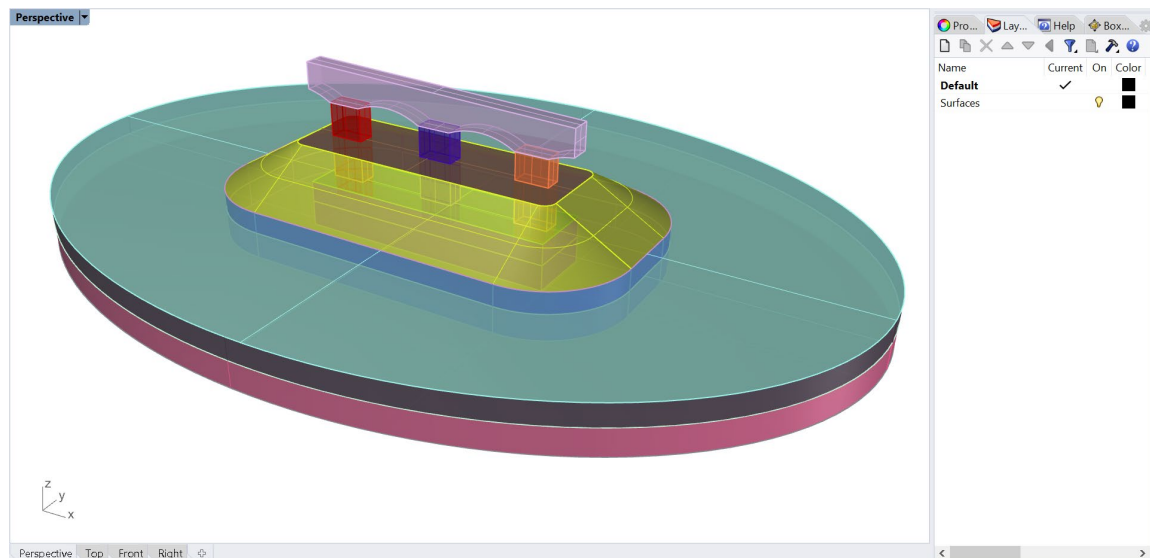
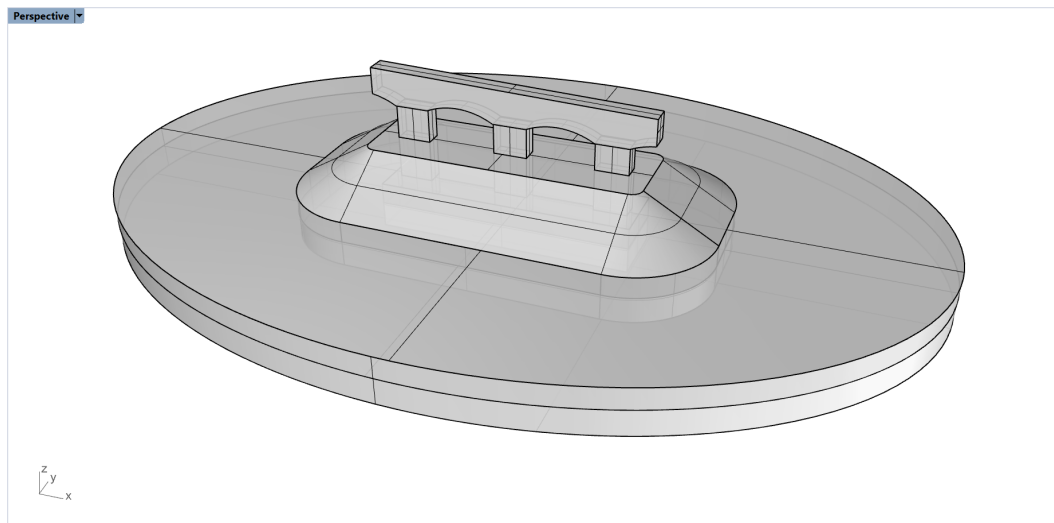

Figure 18: Model of a bridge support structure.
Figure 27: Single polysurface constructed by the *NonManifoldMerge* command.
2. The model represents a part of a complex bridge support structure as shown in Figure 18. The model consists of 13 surfaces, seven polysurfaces, and two extrusions represented by BRep objects. Note how the objects are split by each other (e.g., the top light blue surface is split in three pieces); this is done for better meshing results.
The typical approach to construct meshes when starting with initial (poly)surfaces such as in Figure 18 consists of the following:¹
17. Select all objects in layer “Surfaces” (as in Figure 18) and use command **_NonManifoldMerge** () to create a single non-manifold polysurface (Figure 27). The new polysurface is placed into the current layer (“Default”); move it back to the “Surface” layer by changing the object layer assignment in the *Properties* pane (**F3**).